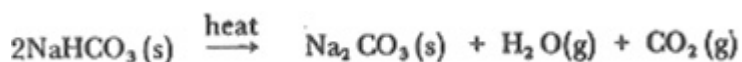

*Figure 4.10: Solvay tower for manufacture of  $\text{Na}_2\text{CO}_3$*
Sodium trioxocarbonate(IV) is manufactured by the Solvay process. In this process, ammoniacal brine (concentrated sodium chloride solution saturated with ammonia) is pumped into a Solvay tower (Figure 4.10) fitted with perforated mushroom-shaped plates. The perforated plates provide a fine spray of the solution so that a large surface area is exposed for reaction to take place. Carbon(IV) oxide is blown up the tower.